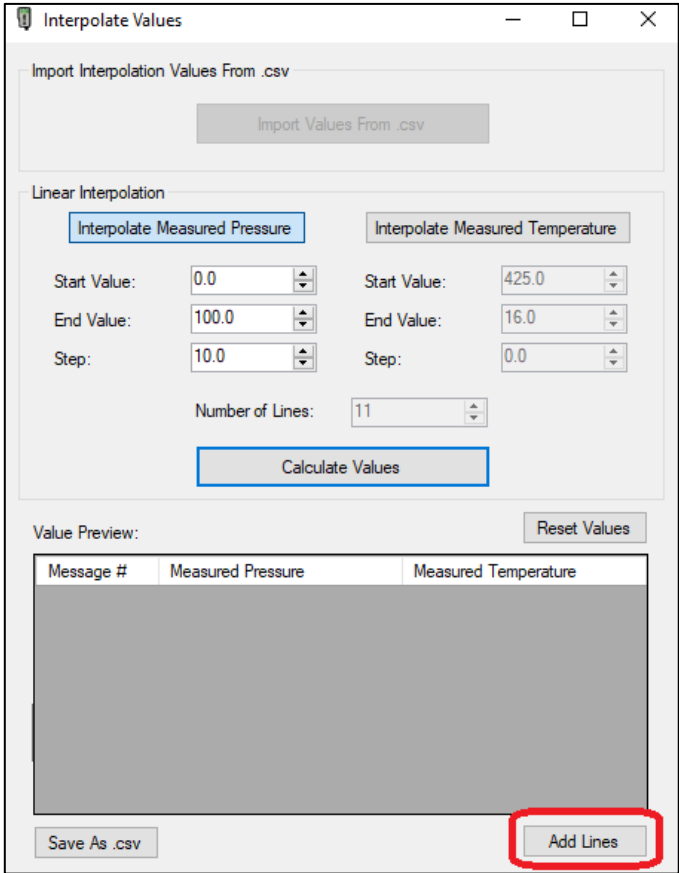

FIGURE 6-41 HHT TEST PATTERN GENERATOR SOFTWARE –ADD MP LINES (STEP)
STEP 6	<p>To copy this interpolated test pattern to the main screen, so that you can program the HHT, click on the “Add Lines” button – see Figure 6-41.</p> <p>Close the “Interpolate Values” window by clicking on the “X” at the top right corner.</p>